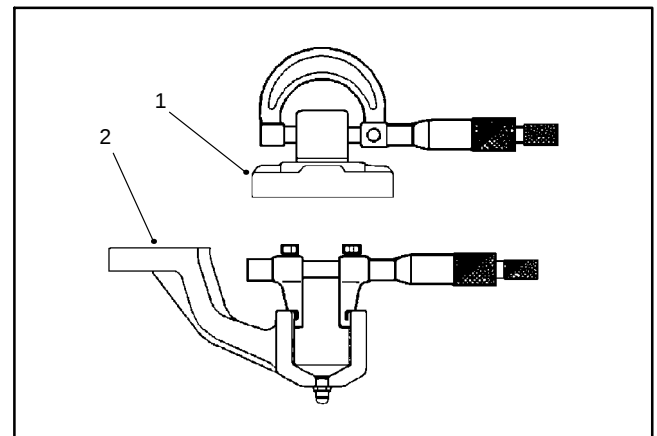

Figure 67
1. Measure the knuckle pin O.D. and the axle case support bushing I.D. to determine the bushing to pin clearance (Fig. 67). Replace components as necessary.